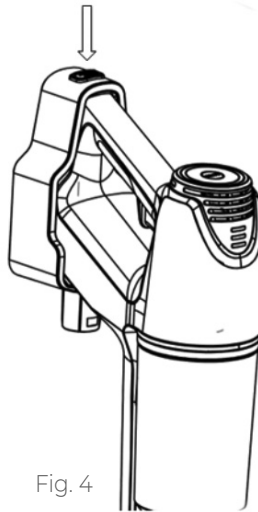

Fig. 4
5. Once the vacuum is fully charged, release it from the base by pushing the release button on the base and pulling the unit loose, as shown in Fig. 4.